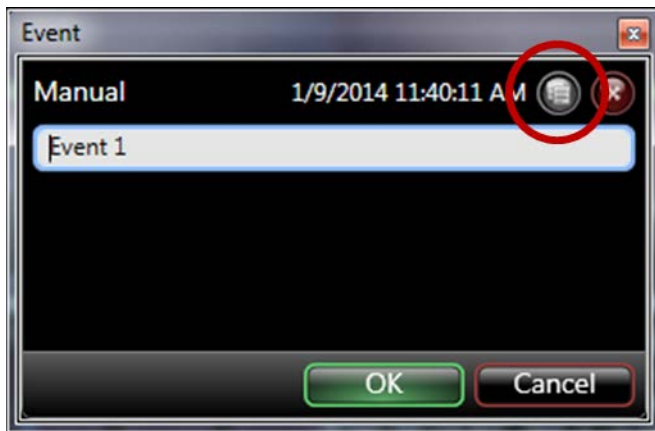

Figure 103. The Copy Event icon located in the Event dialog.
- **Paste Event** allows you to paste an event that you previously copied. An event may be copied from the Event dialog displayed when entering a new event or editing an existing event (Figure 103).